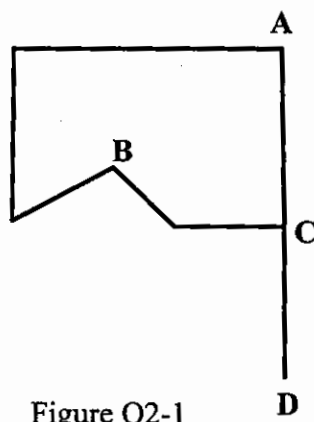

Figure Q2-1
- E. For the network diagram shown below in figure Q2-1 below, show with the help of a sketch the necessary anchor support positions for the junctions A, B, C and D.